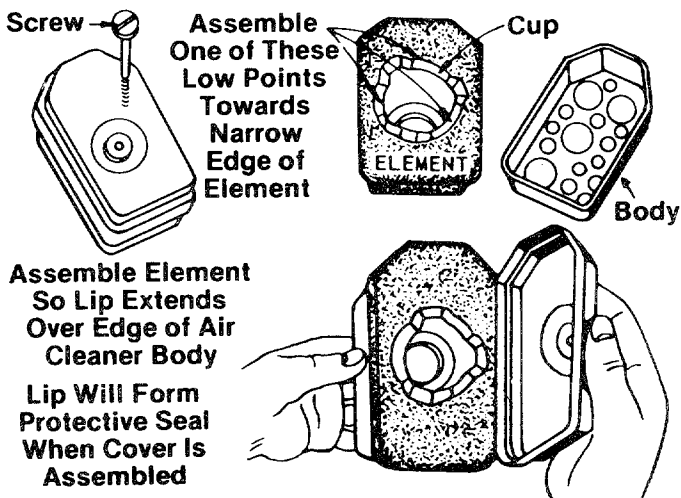

FIGURE 28.
- F. Coat element with two tablespoons of engine oil, squeeze to distribute and remove excess oil. See figure 28.
- H. Reassemble (see figure 28) by inserting element into body and snapping cover into place, fasten to carburetor with screw.